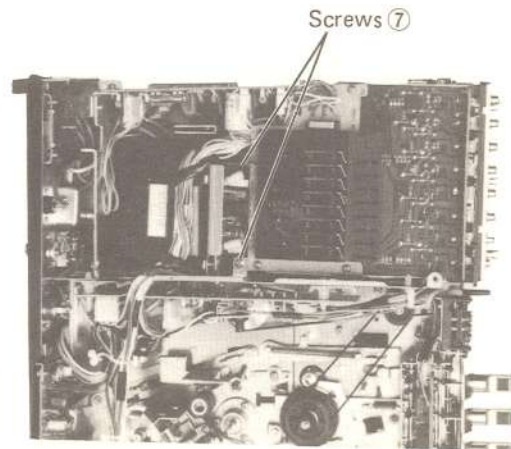

Fig. 3-14
1. Remove the two screws ⑦ on the tuner assembly as shown in Fig. 3-14.